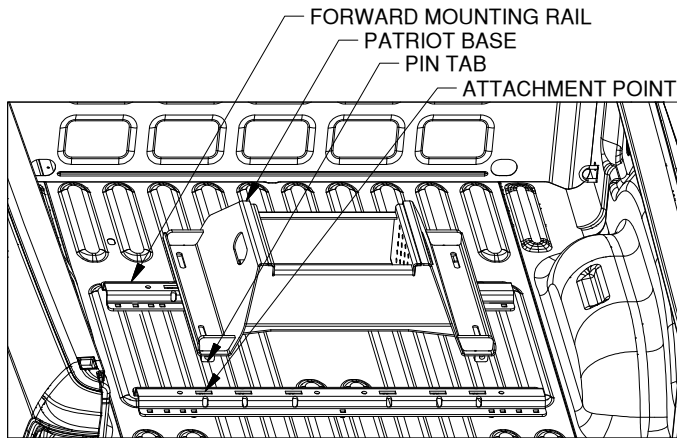

Figure E1: View into truck bed looking towards tailgate.
1. **Position the forward mounting rail.** For this step the base which will be used in the mounting rails is required. Place a mounting rail into the truck bed in front of the rear mounting rail. Place the base over the rail attachment points and carefully lower it until the pin tabs pass through the attachment points on the rear mounting rail. Attach the forward mounting rail to the forward mounting points on the base. The base should rest flat against the top of the rails, see Figure E1. With the base still attached ensure that the forward rail is centered in the truck bed.